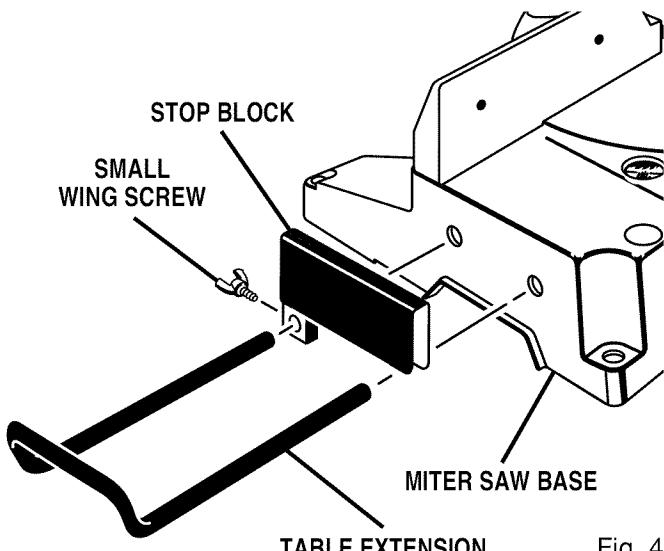

Fig. 4
See Figures 4 and 5.
- Slide the stop block on the back arm of either table extension, then insert the table extension into the saw base. See *Figure 4*.
- Use the small wing screw to secure the stop block to the table extension. See *Figure 4*.